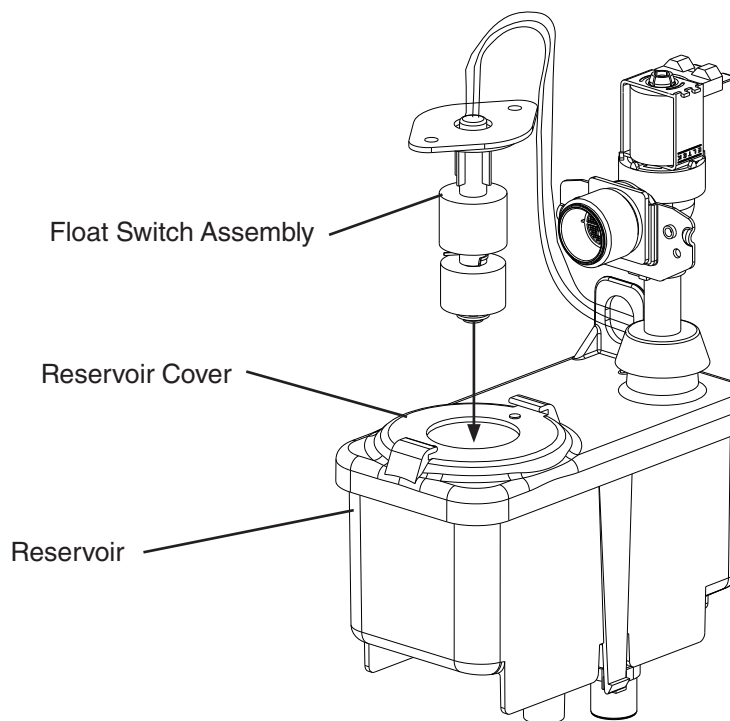

Fig. 8
- 3) Remove FS assembly from the reservoir cover. See Fig. 8.
- 5) While not necessary, the floats can be removed from the shaft during cleaning. If you remove them, note that the blue float is on top. The floats must be installed with the magnets inside them towards the top of the switch. See Fig. 8. Installing the floats upside down will affect the timing of FS operation.